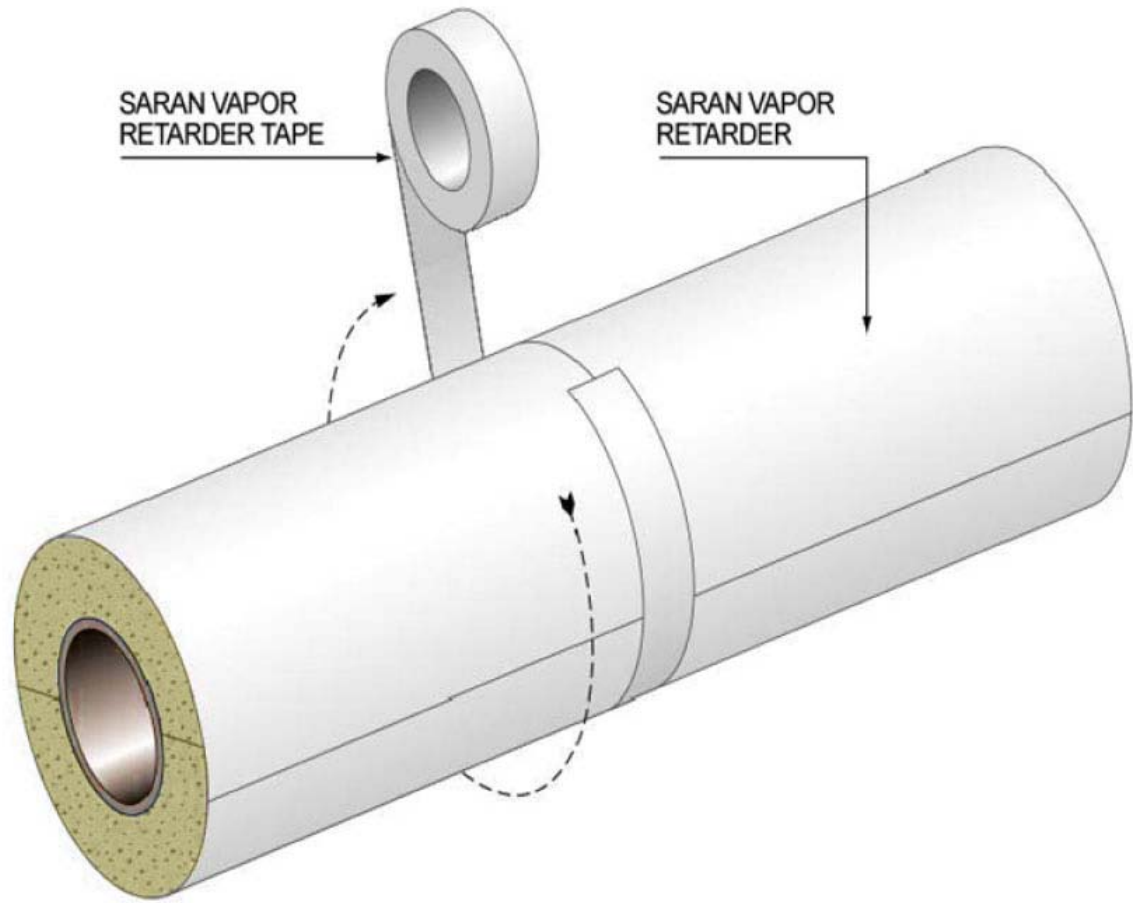
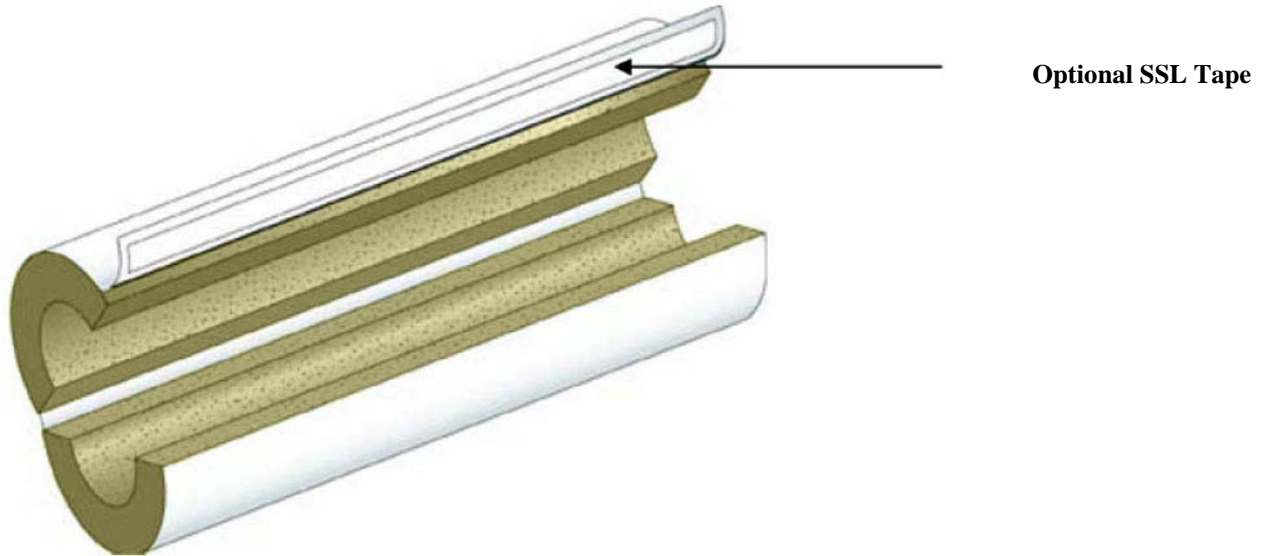

Figure 3
Figure 4
- 3.4.4 Vapor retarder butt joints shall be sealed with 3" wide Saran 520 Vapor Retarder Tape (see Figure 3 in Appendix B).
- 4.1.8 Elbows and fittings shall be wrapped with Saran 520 Vapor Retarder Tape. See Section 3.4.3 for Saran tape usage. Saran 520 tape shall be wrapped in a spiral configuration. When Saran Vapor Retarder is factory-applied, lap joint to be sealed with SSL tape. Apply Saran 520 tape around the butt joint with a ¼ circumference overlap. See details in Figure 3 and Figure 4 in Appendix B.